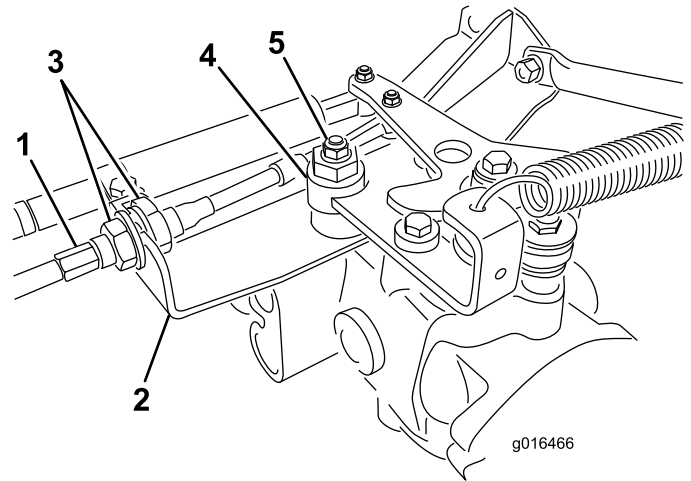

Figure 43
- A. Loosen both jam nuts securing the traction control cable to the bulkhead on the hydrostat (Figure 43). Make sure the jam nuts are loosened equally and sufficiently to allow adjustment.
- B. Loosen the nut securing the eccentric to the top of the hydrostat (Figure 43).
- D. Rotate the eccentric until creep does not occur in either direction. When the wheel stops rotating, tighten the nut locking the eccentric and the adjustment (Figure 43). Verify the adjustment with the throttle in the Slow and Fast position.
- E. From each side of the bulkhead, tighten the locknuts **evenly**, securing the traction cable to the bulkhead (Figure 43). Do not twist the cable.